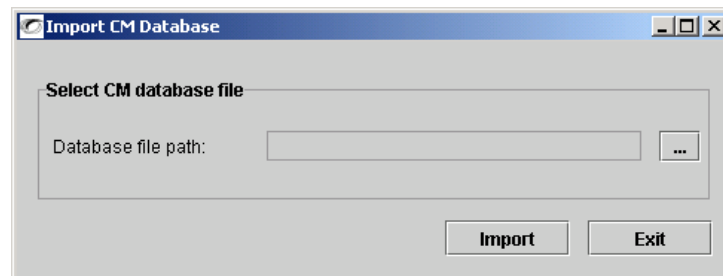

Figure 5-4 *Import CM Database Window*
7. The Import CM Database window shown in *Figure 5-4* will appear. Specify the **Database file path** (the location of the *IM.DAT* file) and click on **Import**.